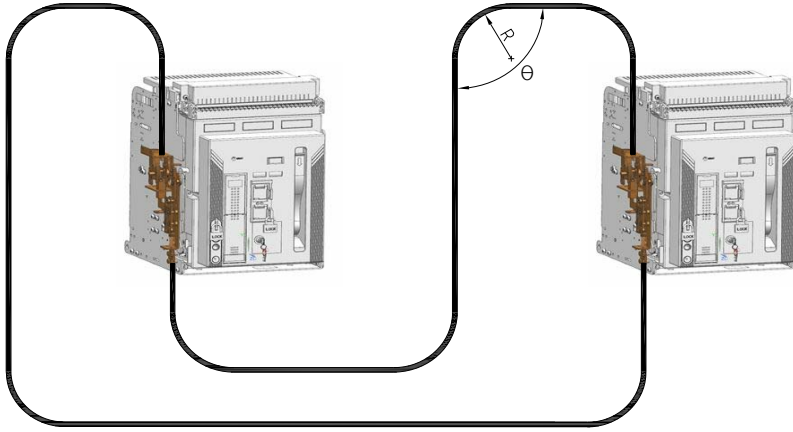

FIG 16
16. WIRE 배열 / ARRANGE OF WIRE (FIG 16)